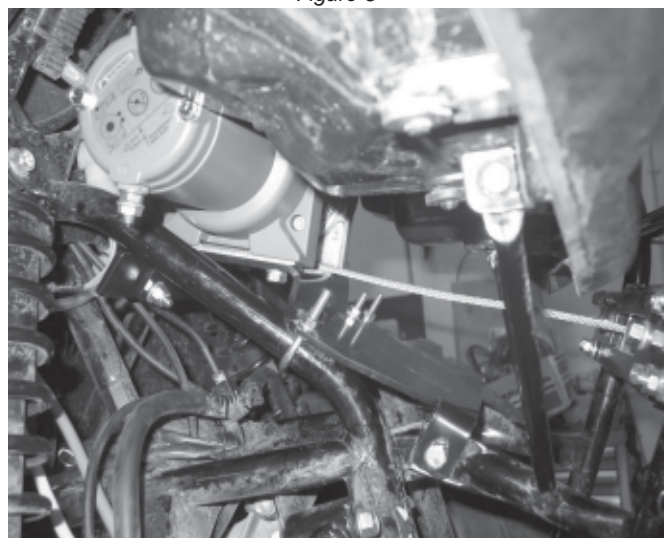
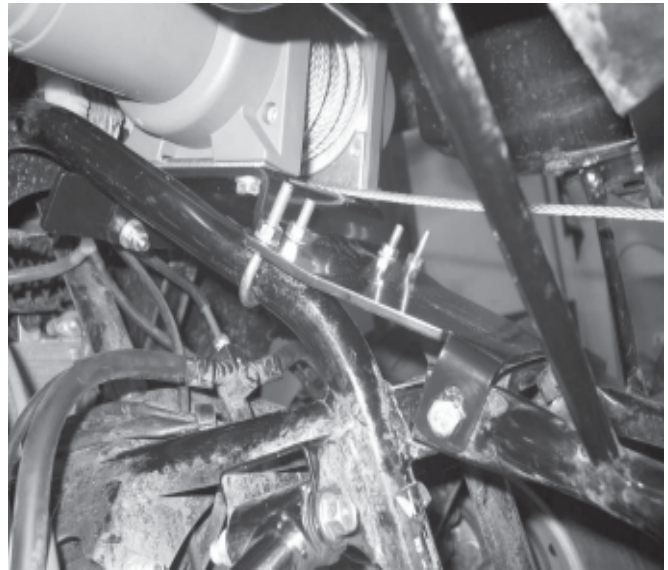

Figure 6
Figure 7
6. Place the winch into position as shown in figure 6 and figure 7. Attach the winch using 4 5/16-18 x 1 hex head cap screws and 5/16 lock washers. These fasteners will be found in the winch hardware package. Tighten the bolts to a recommended torque of 12 ft-lb (17 N-m).
10. Attach either the cast-iron hawse or roller fairlead (depending on your winch kit) to the fairlead support bracket (A2) using 3/8" dia bolts, nuts, and washers provided with the winch as shown in figure 6. Hawse users will need to remove the hawse from the fairlead plate before mounting on the support bracket. Tighten all nuts and bolts securely.